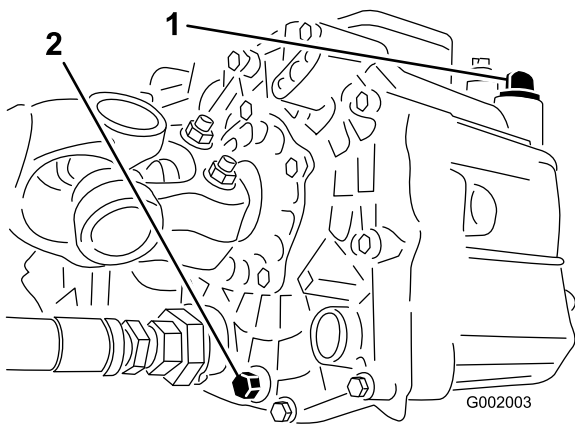

Figure 52
3. Remove the drain plug from the side of the reservoir, and let the hydraulic fluid flow into the drain pan (Figure 52).